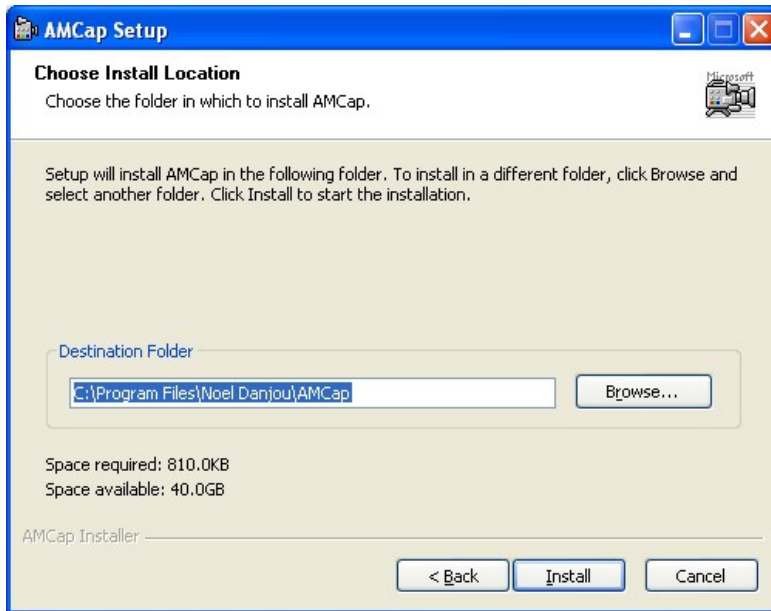

Figure 7-28: AMCap Driver Choose Install Location
Step 6: Browse for an install location or use the one suggested (**Figure 7-28**).